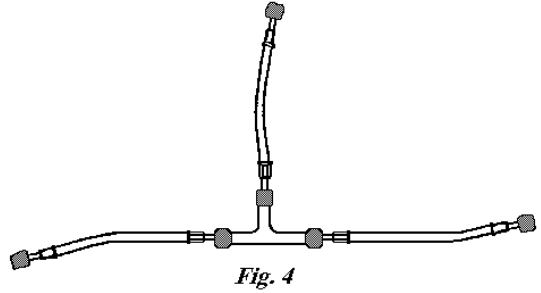

Fig. 4
**Purging Hose Configuration** – This arrangement of three 4' to 6' hoses with low-loss fittings and a ¼" male flare Tee fitting can be used to purge a sealed system for both operating and non-operating compressor situations. No hand valves are required. (Fig. 4)